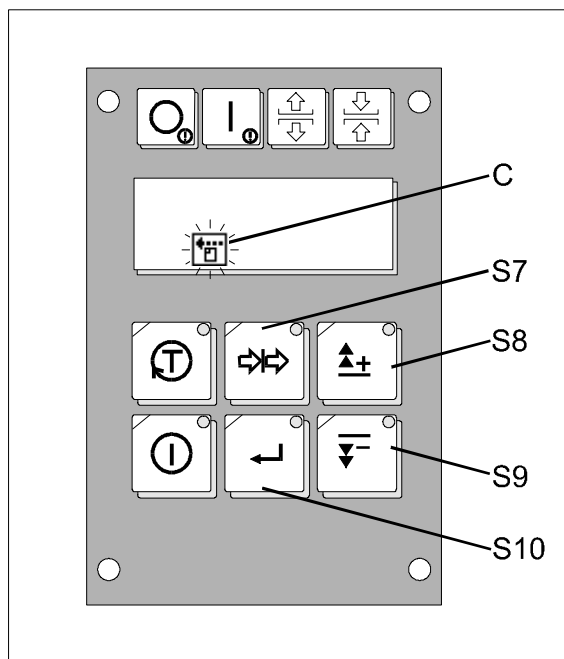

Fig. 18: Operation mode
- Press button S10 on the sprayer's operating panel until the symbol C (intermittent or continuous mode) lightens resp. is active (Fig. 18). Each time a button is pressed means that the next symbol is active. Switch over between the two operating modes by pressing buttons S8 and S9.